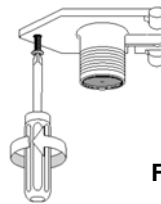

Fig.5
2. Remove the retaining screw of the quick cable connector door located at the base of the appliance (Fig.5).